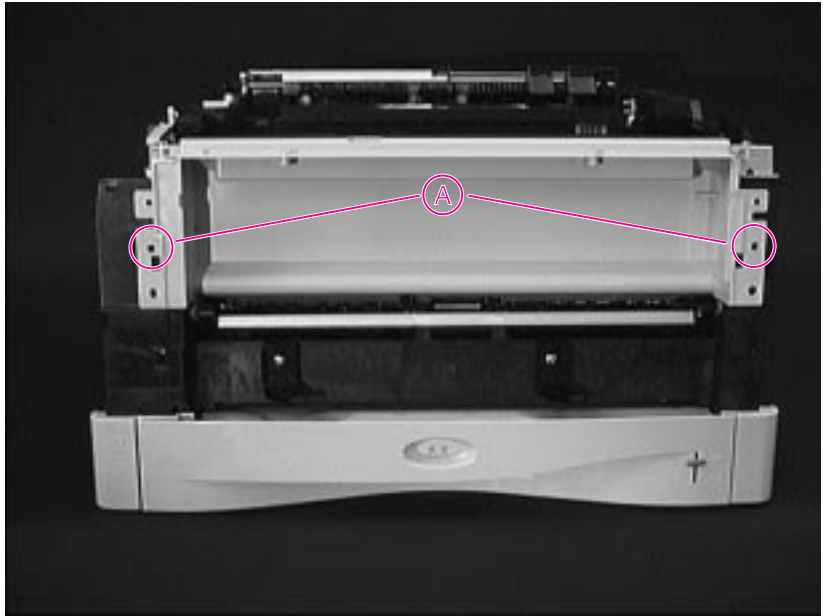

Figure 6-18 Tray 1 Inner Cover (front of printer)
- 2 The Tray 1 Inner Cover is a plastic tray located at the top front of the printer. Remove the two self-tapping screws, (A) in Figure 6-18, holding the Cover to the front of the chassis.